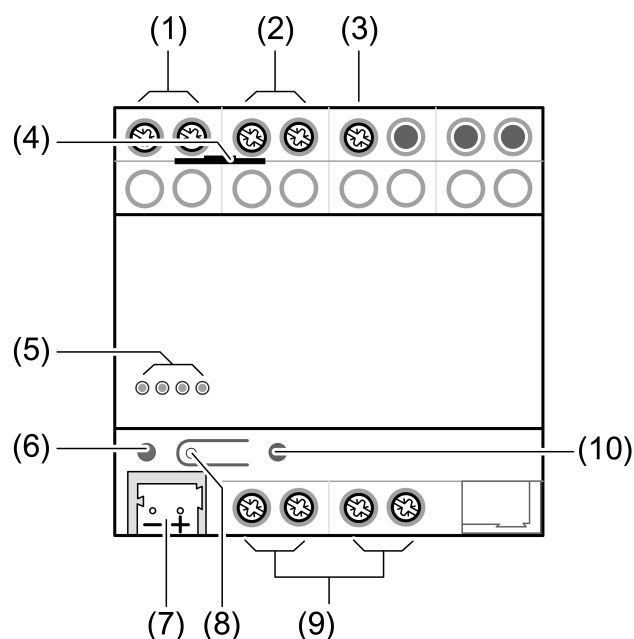

Figure 1
- Press the programming button (8) (Figure 1).